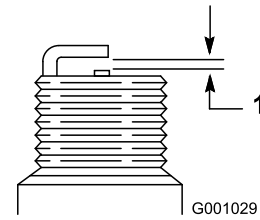

Figure 37
4. Set the gap between the electrodes on a new spark plug at 0.76 mm (0.030 inch) as shown in Figure 37.